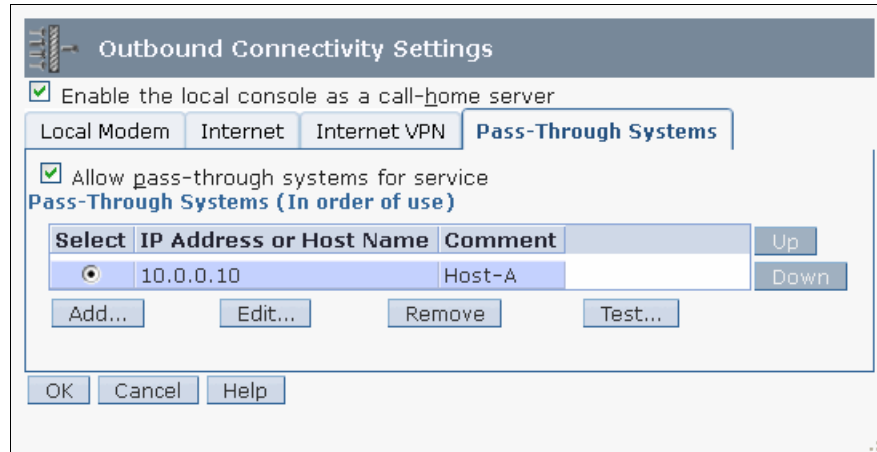

Figure 6-29 Manage Outbound Connectivity option: Pass-Through Systems tab
1. Select **Allow pass-through systems for service** (Figure 6-29). Until you select this option, you are not able to allow systems for pass-through nor are you able to use the Edit, Remove, and Test options until you add a server.